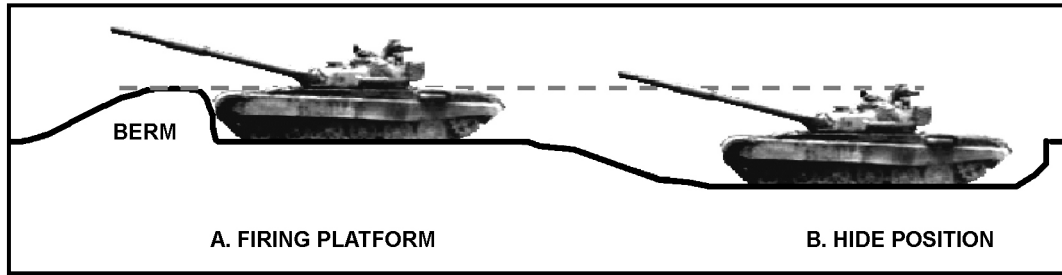

Figure C-35. Tank in defilade.
(1) **Firing Platform Position** (A, Figure C-35). The tank stays on the firing platform long enough to fire its main gun. During the short period of time that it is in this position, the gunner sees only the turret and gun tube. As soon as the tank fires, it moves to its hide position.
(2) **Hide Position** (B, Figure C-35). When a tank is in its hide position, the gunner cannot see the target, but he may be able to see the tank commander's head.